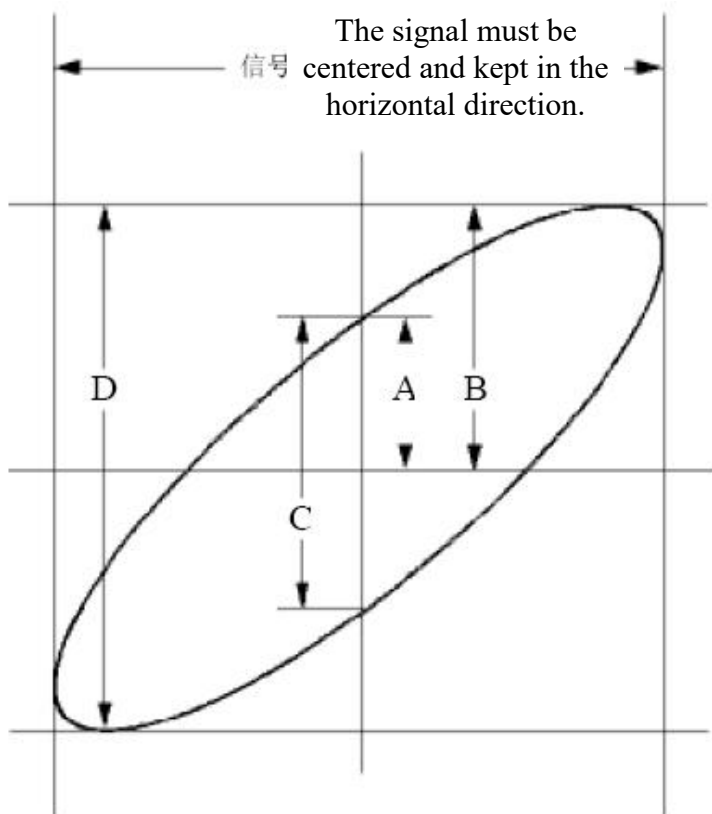

Figure 6-6 Lissajous Graph
(1) Set the probe menu attenuation coefficient for **10X** and that of the switch in the probe for **10X** (see "How to Set the Probe Attenuation Coefficient" on P19).
- (2) Connect the probe of channel 1 to the input of the network and that of Channel 2 to the output of the network.
- (3) Push the **Autoset** button, with the oscilloscope turning on the signals of the two channels and displaying them in the screen.
- (4) Turn the **Vertical Scale** knob, making the amplitudes of two signals equal in the rough.
- (5) Push the **Acquire** button to display the right menu.
- (6) In the right menu, select **XY Mode** as **ON**. The oscilloscope will display the input and terminal characteristics of the network in the Lissajous graph form.
- (7) Turn the **Vertical Scale** and **Vertical Position** knobs, optimizing the waveform.
- (8) With the elliptical oscillogram method adopted, observe and calculate the phase difference (see *Figure 6-6*).